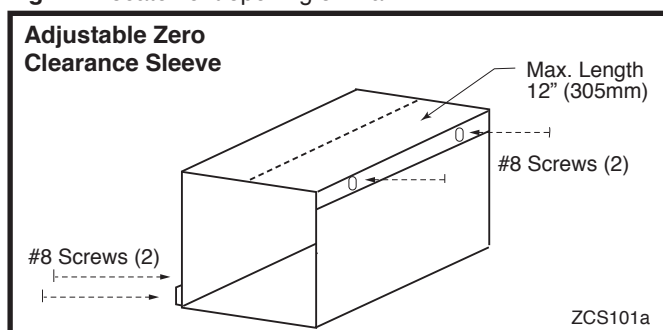
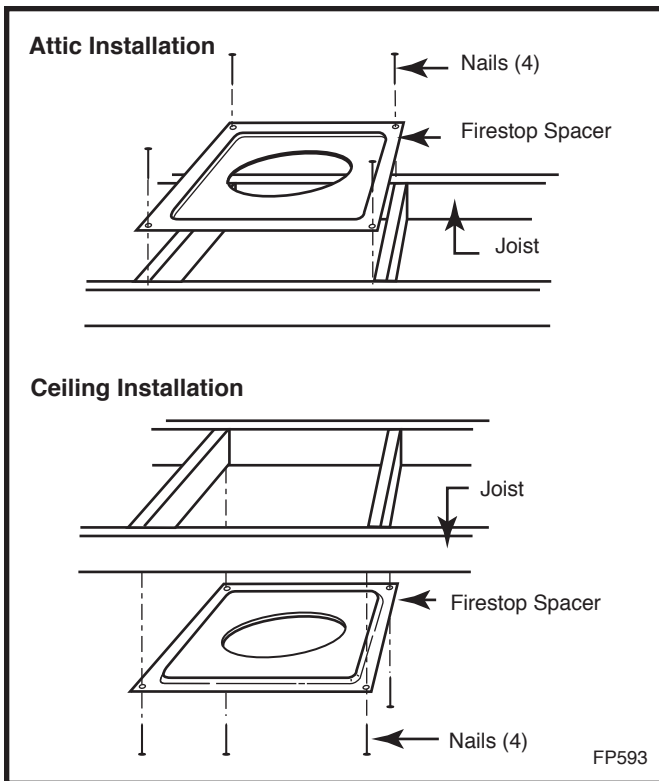

Fig. 22 Adjustable zero clearance sleeve.
Fig. 31 Installing firestop spacer.
Measure wall thickness and cut zero clearance sleeve parts to proper length (MAXIMUM 12"/305 mm). Assemble sleeve using #8 sheet metal screws (supplied). (Fig. 22) Install firestop assembly. (Fig. 31)
- SKCS8 must be used to support offsets. (Fig. 31) This application will require that you first determine the roof pitch and use the appropriate starter kit. (Refer to Venting Components List)
6. Place firestop(s) SKFS2A or Attic Insulation Shield AIS-SK into position and secure. (Figs. 31, 32)